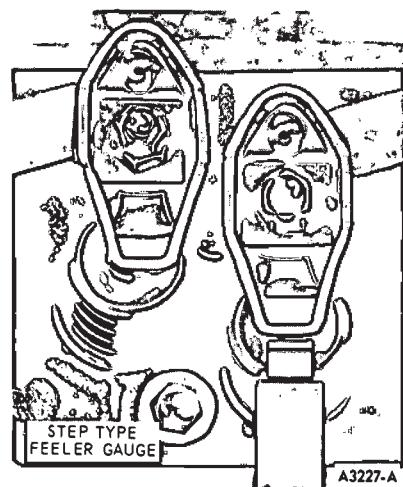

FIG. 14—Valve Lash Adjustment—Mechanical Tappet
2. With the crankshaft in the positions given in steps 3, 4 and 5, loosen the lock nut and set the valve lash (Fig. 14) to specifications with a step-type feeler gauge (go and no go). After adjusting each valve, torque the lock nut to specifications.
2. With the engine idling, set the valve lash (Fig. 14) using a step-type feeler gauge only (go and no go). The final (hot) intake and exhaust valve lash settings are listed in the Specifications (Section 5).